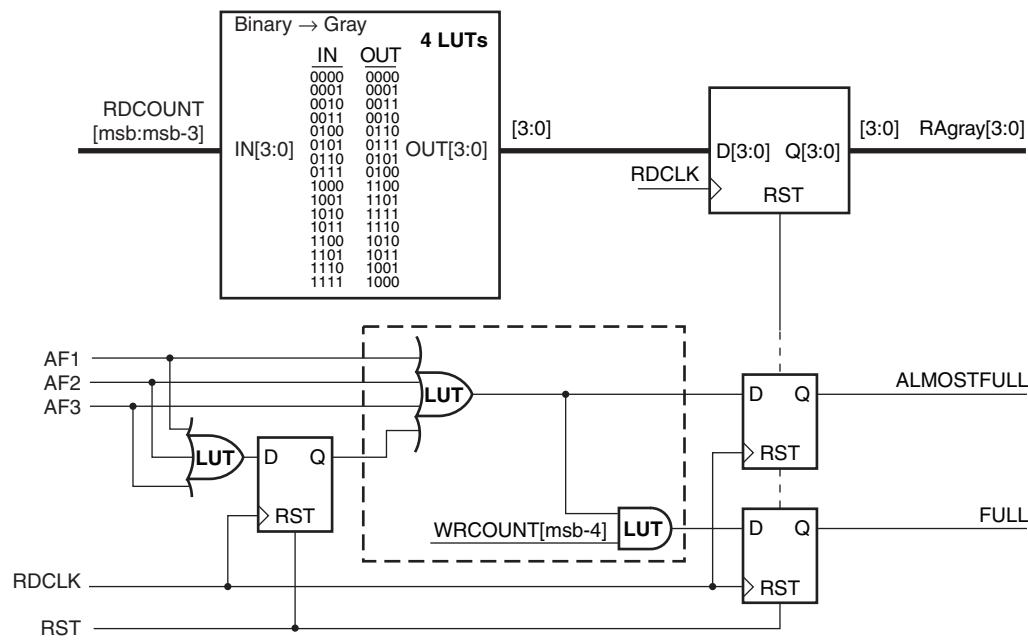

Figure 4-32: ALMOSTFULL and FULL Flag Generation
Flag AF1, AF2, or AF3 goes high if the read sector (RAgray) is equal to write counter sector one, two, or three respectively. A high on one of these flags sets the ALMOSTFULL flag high as shown in Figure 4-32.
- Setting and clearing of ALMOSTFULL occurs between two and three WRCLK periods after equality goes true or false, respectively in Figure 4-32.